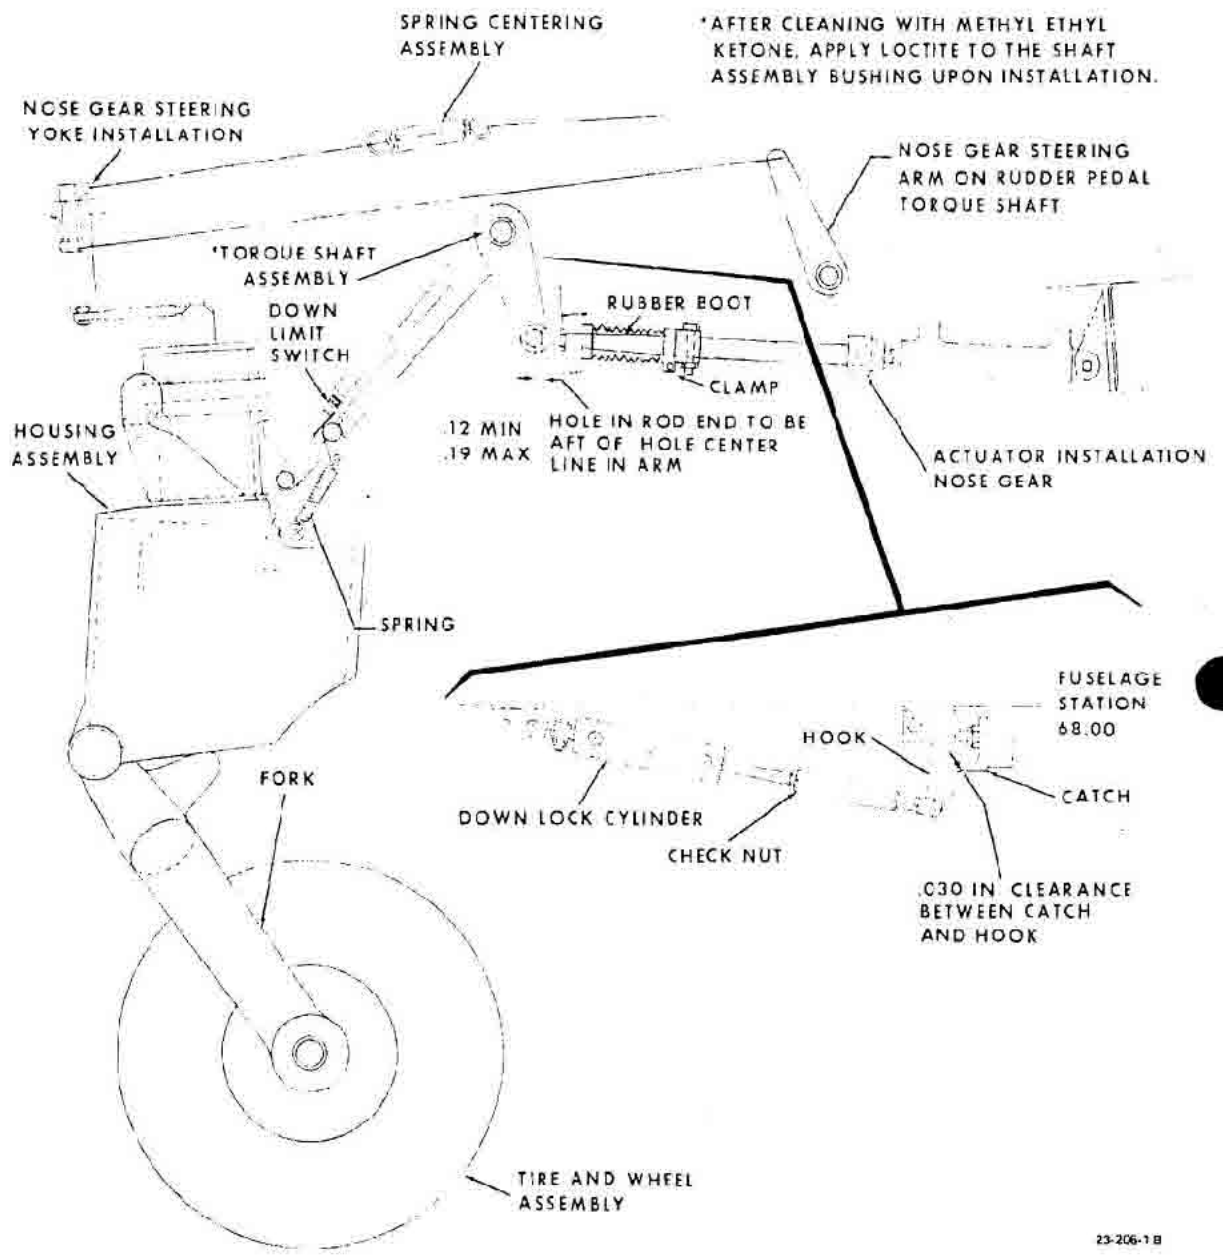

Figure 3-27. Nose Gear
i. The nose gear drag link shall break over center as shown in Figure 3-27.